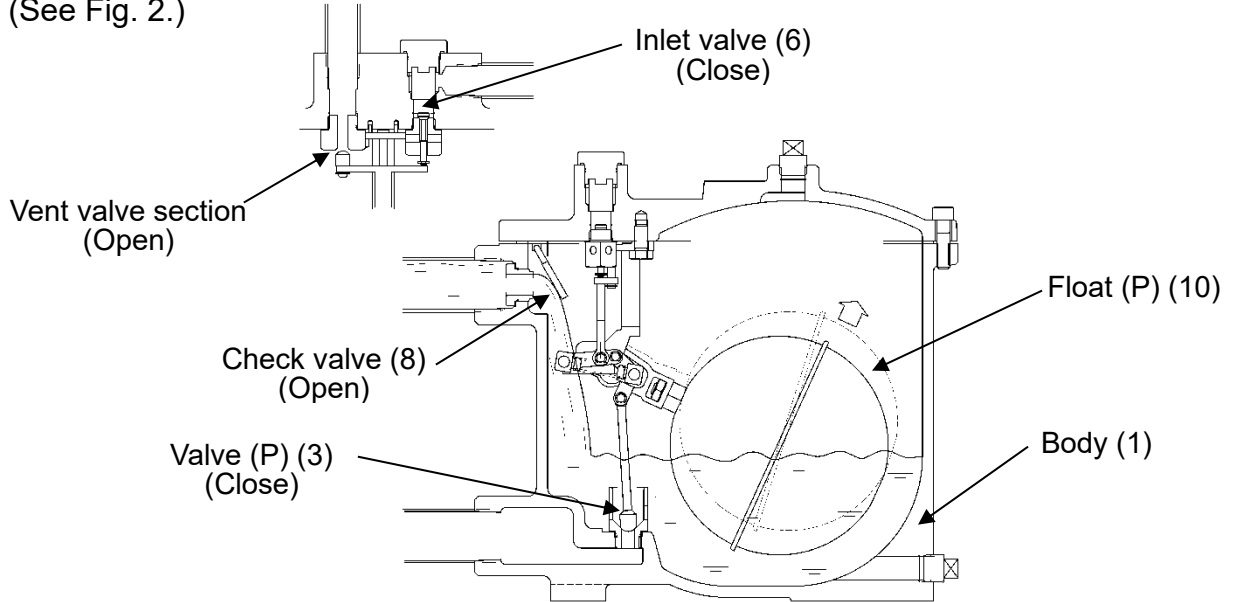

Fig. 2
If the condensate flows from the condensate inlet through the check valve (8) to the body (1), float (P) (10) is moved up by the ascending force. In connection with the movement, valve (P) (3) opens. If the pressure at the inlet side is larger than the back pressure on the product exit side, condensate is removed in this condition. (See Fig. 2.)